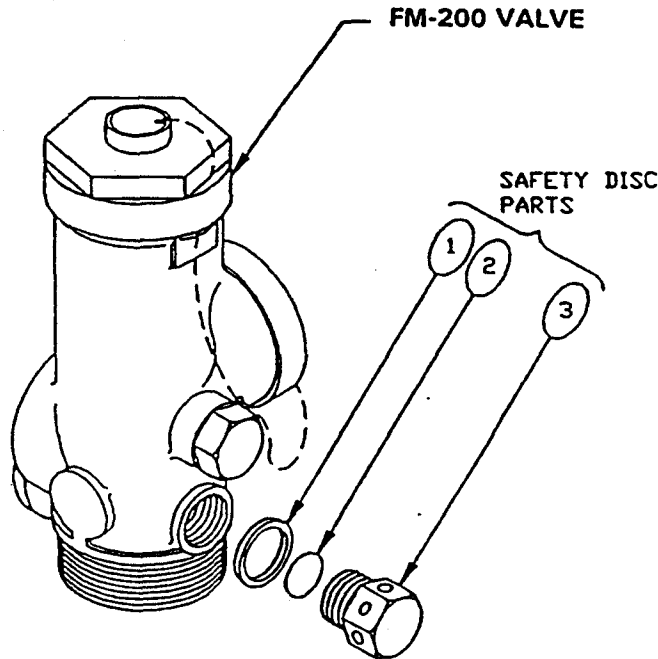

Figure 6.8.2 - Safety Disc Replacement
6.8.4 Safety Disc Replacement (Refer to Figure 6.8.2).